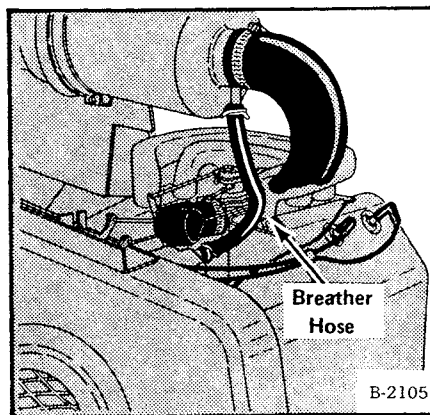

Fig. 1-8 Crankcase Breather Hose
**NOTE:** The leak can be in the air cleaner hose or the crankcase breather hose (Fig. 1-8).